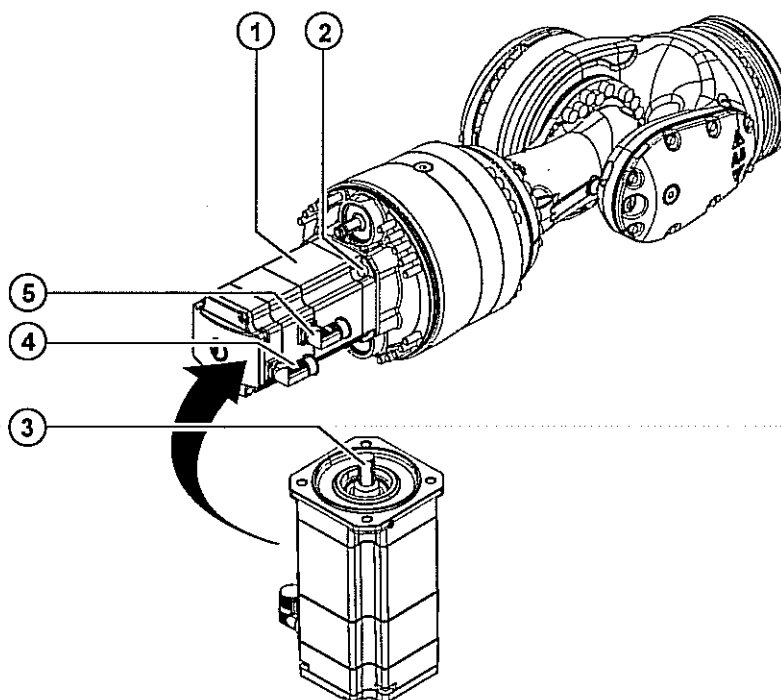

Fig. 12-18: Removing motor A6
2. Clean the toothing on motor A6 and in the gear unit of the in-line wrist before installation and apply a thin but continuous coat of Microlube GL 261 grease (>>> Fig. 12-18).